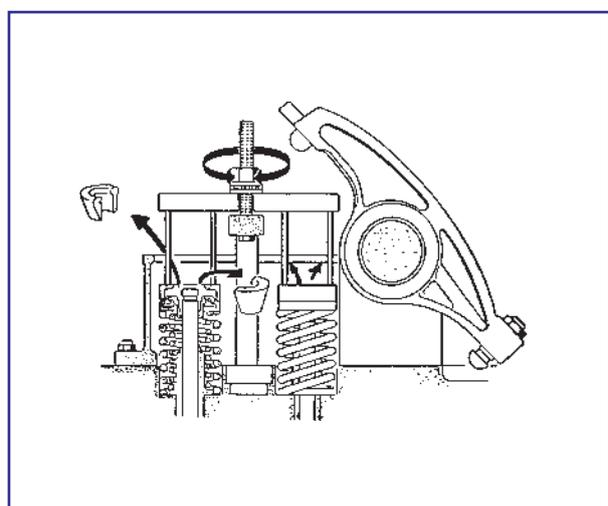

Fig 3
- 5) Now compress the valve springs by tightening the nut (B), after which the cone rings can be removed, see fig 3.